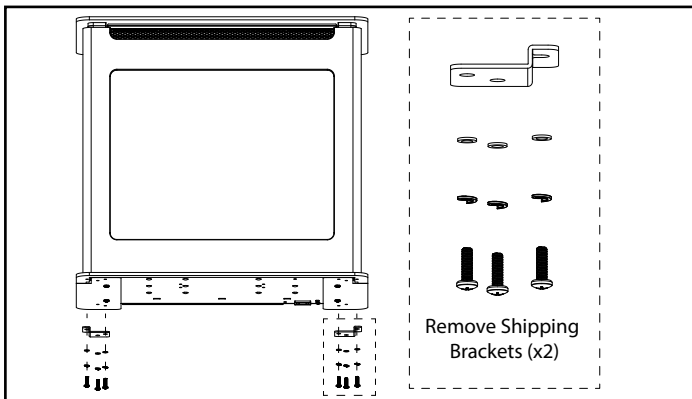

Figure 4.1 - Detaching Front
2. The Front is shipped attached to the appliance. To remove the front, remove the screws from the shipping brackets on the bottom of the appliance, Figure 4.1.